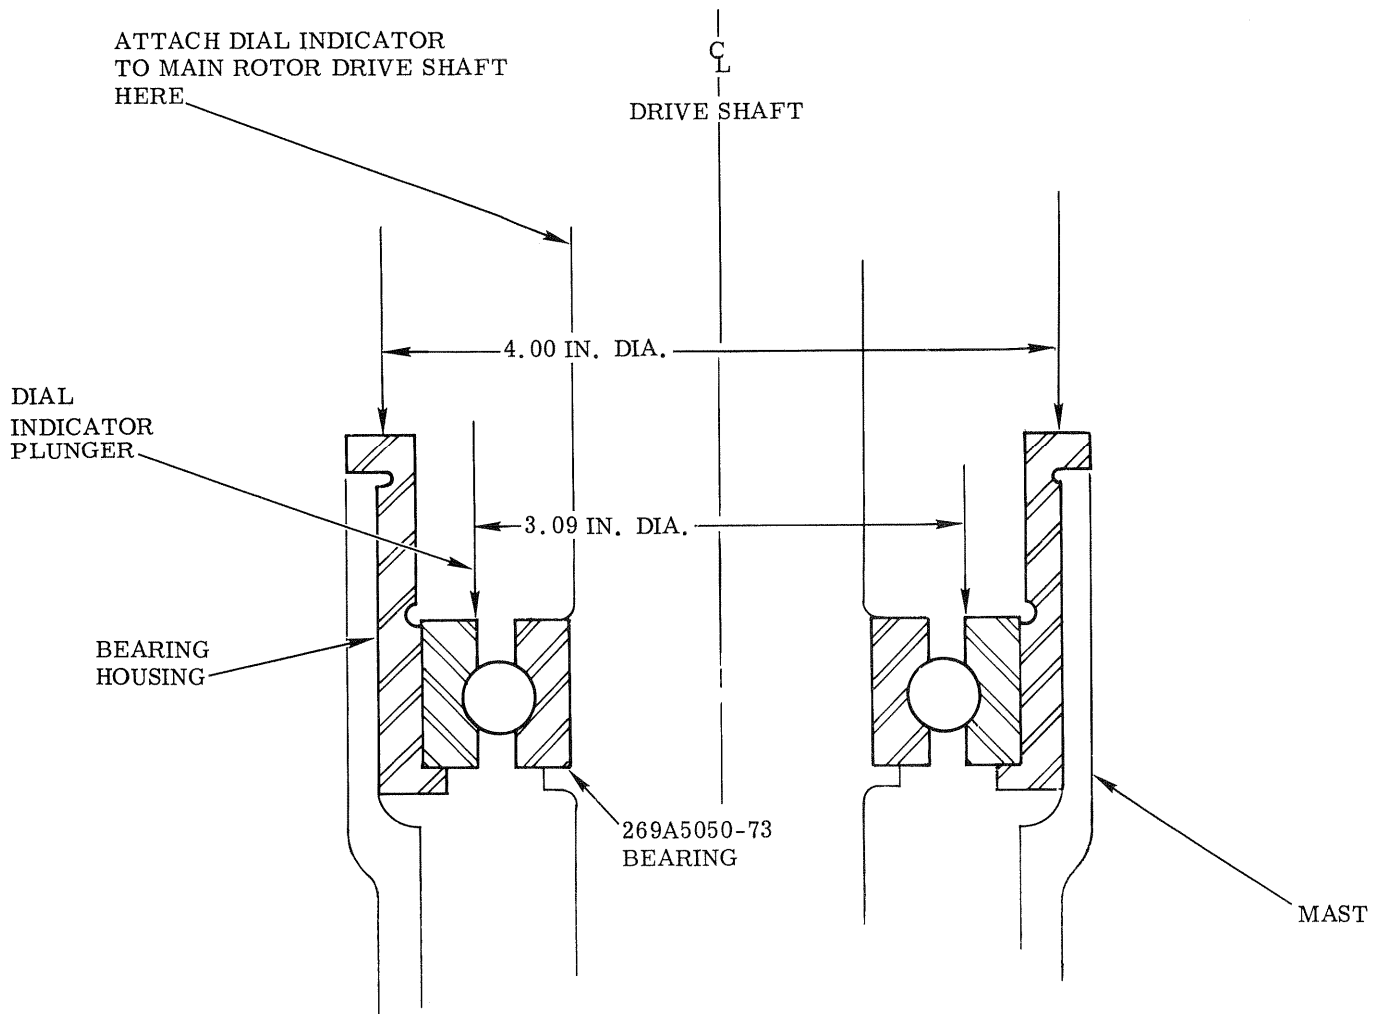

FIGURE 2. TIR CHECK - MAIN ROTOR THRUST BEARING
4. Check for proper alignment of bearing by attaching dial indicator to main rotor shaft, with indicator plunger contacting upper surface of thrust bearing outer race on a diameter of 3.09 inches approximately. (See Figure 2).